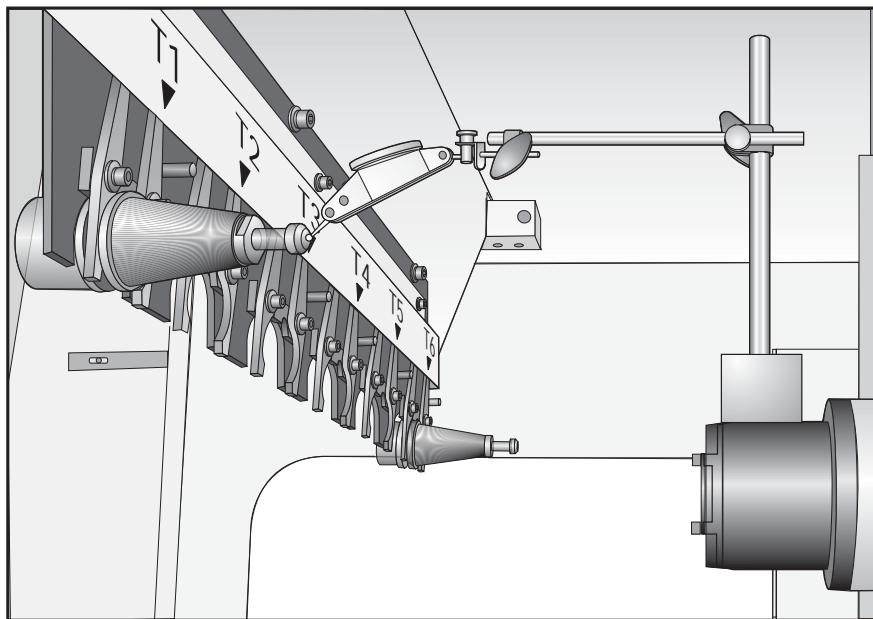

Figure 3.8-18
4. After successfully completing step 3, reposition the indicator and jog the spindle so that the probe just touches the back end of the pull stud on tool holder #1, see figure 3.8-18.